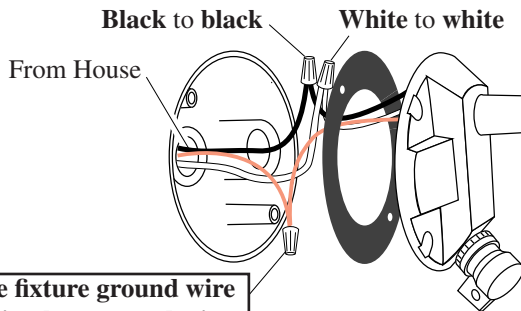

Figure 1 - Wiring at Junction Box Plate
3. Connect the light control as shown in Figure 1: